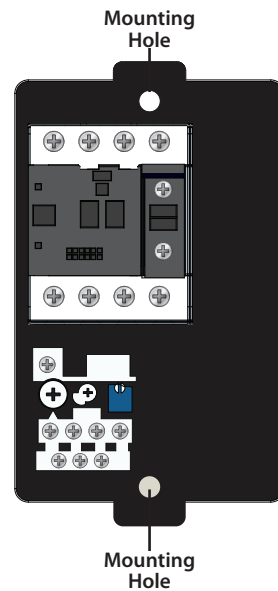

FIG. 19b
- Place a mark through the two mounting holes [FIG 19b].